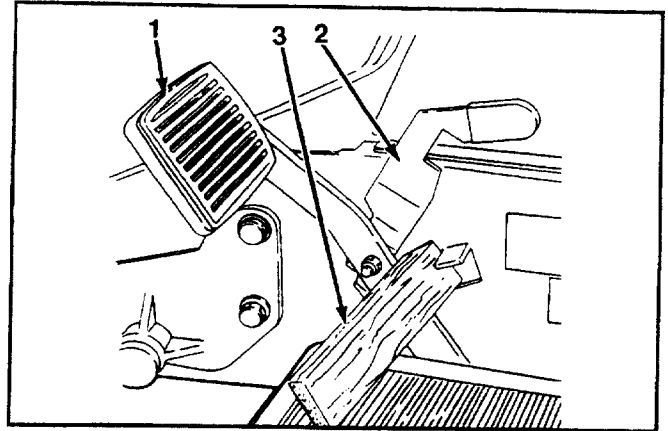

FIGURE 1.
1. To check brake adjustment, place a 1 inch thick wood block between the single brake pedal and the brake pedal lock. See figure 1.
2. With the 1 inch thick wood block installed, the brake disc pads should be applying a light amount of friction against the brake disc rotor. If they are not, the brakes need adjustment. See figure 1.
2. Place a 1 inch thick wood block between the single brake pedal and the brake pedal lock. See figure 1.